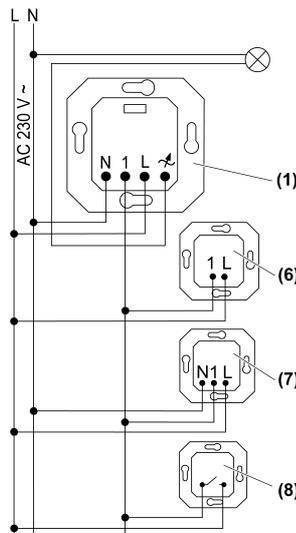

Figure 2: Connection diagram with optional extensions
- (1) FM insert
- (6) Extension insert, 2-wire
- (7) Extension insert, 3-wire
- (8) Installation button, NO contact
- Connect FM insert according to connection diagram (Figure 2).
- Attach the frame (2) and the top (3).